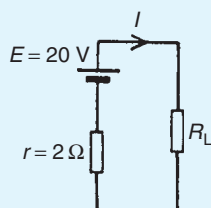

Figure 13.96
12. The maximum power transferred by the source in Fig. 13.96 is: